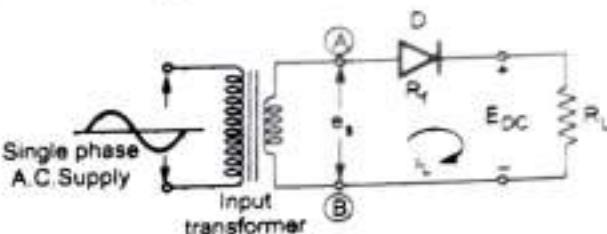

Fig. Q.25.1 Halfwave rectifier
**Ans. :** • The circuit diagram is shown in the Fig. Q.25.1